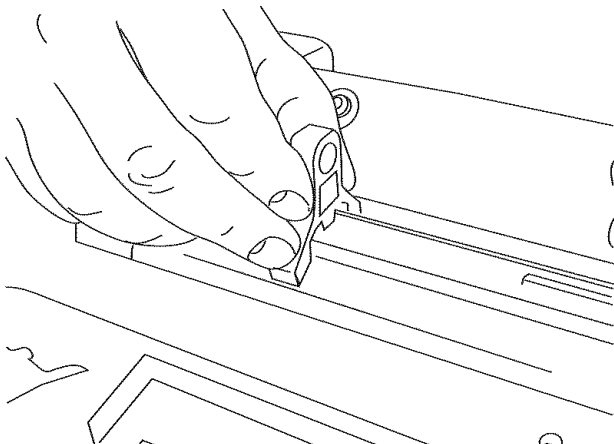

Figure 12 - Using the gauge to check blade height
- Place the blade height gauge on one end of the blade and adjust the jack screw until the blade just contacts the tab in the middle of the gauge (see Figures 12 and 13).